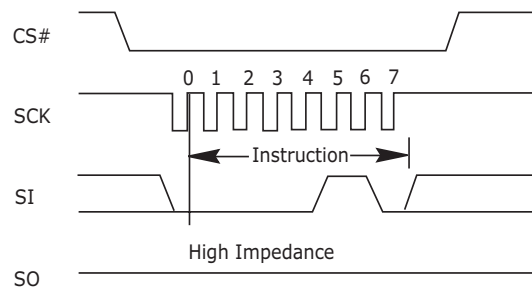

Figure 4. Write Enable (WREN) Instruction Sequence
The Write Enable (WREN) instruction (Figure 4) sets the Write Enable Latch (WEL) bit. The Write Enable Latch (WEL) bit must be set prior to every Page Program (PP), Erase (SE or BE) and Write Status Register (WRSR) instruction. The Write Enable (WREN) instruction is entered by driving Chip Select (CS#) Low, sending the instruction code, and then driving Chip Select (CS#) High.